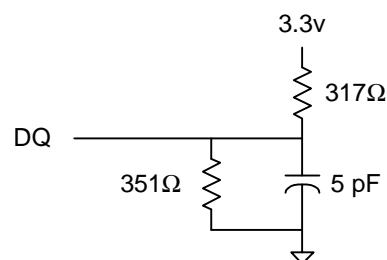

Fig. 2 OUTPUT LOAD EQUIVALENT
- Output loading is specified with $C_L=5pF$ as in Fig. 2. Transition is measured $\pm 500mV$ from steady state voltage.